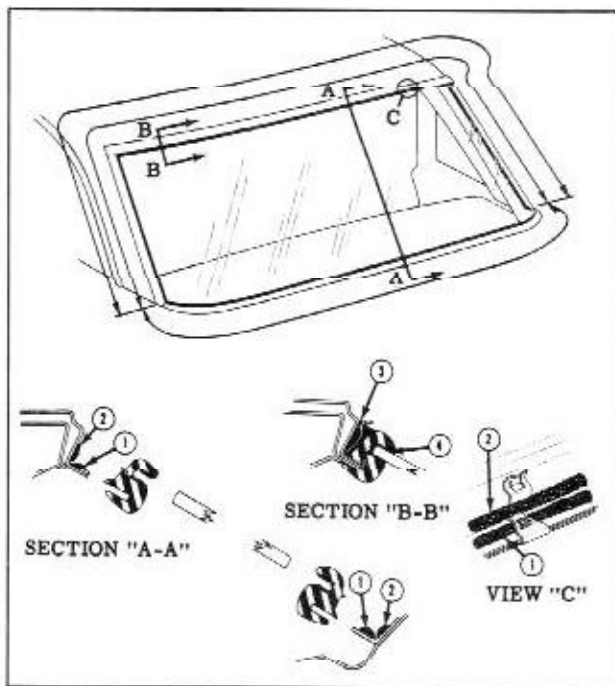

Fig. 15-45 Back Window Sealing
Positioning of back window reveal molding retaining clips is shown in Fig. 15-45.
3. Prior to installing any reveal molding clips apply a continuous ribbon of medium-bodied sealer (approximately 1/4" thick) along the pinchweld and retaining flange, as indicated at "1" in Section "A-A", Fig. 15-45, completely around opening.
4. Apply a second continuous ribbon of medium-bodied sealer (approximately 1/4 inch thick) along the outer wall of the back window opening, as indicated at "2" in Section "A-A", Fig. 15-45, completely around opening.
7. Apply sufficient medium-bodied sealer to fill the void between rubber channel and body opening up sides and across top of window, as indicated at "3" in Section "B-B", Fig. 15-45.
8. Using a pressure type applicator apply an approved weatherstrip adhesive between outer lip of rubber channel and glass, as indicated at "4" in Section "B-B", Fig. 15-45, completely around rubber channel.